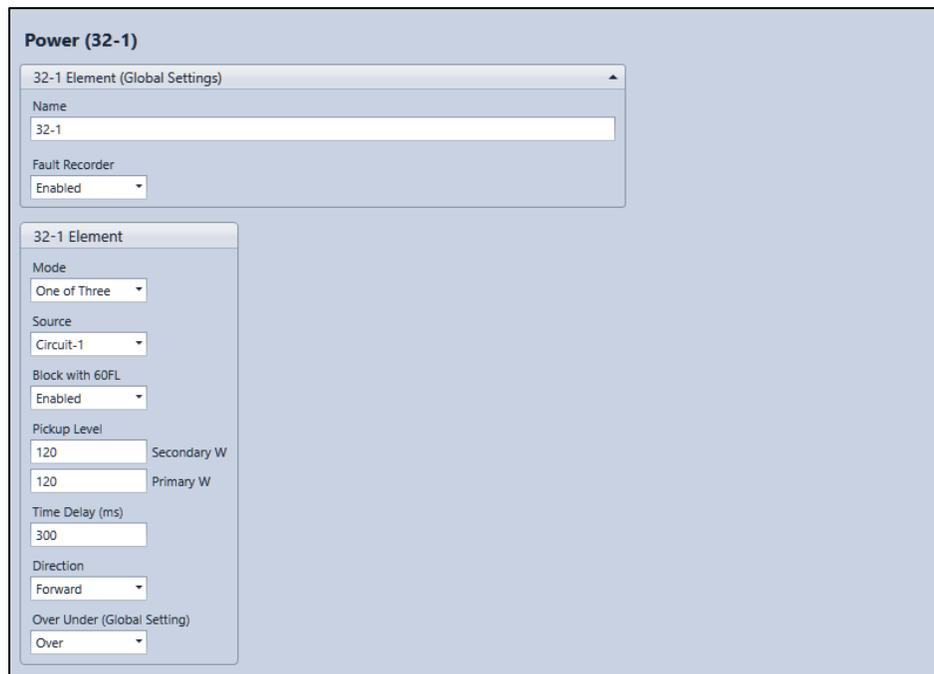

Figure 20-4. Power Settings Screen
Power element operational settings are configured on the Power (32) settings screen (Figure 20-4) in BESTCOMSPPlus.